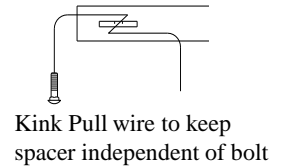

Figure 3
- Using pull wires, feed spacers (Item 2) and carriage bolts into position (both rail). Access hole located at end of the frame rail and before the impact bar. Leave pull wire attached. Note: It is much easier if bolt and spacer are not engaged while inserting them into frame, refer to illustration. See Figure 3